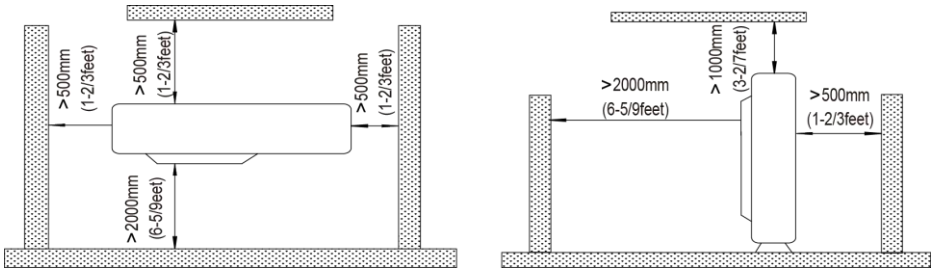

Fig. 3.2
- (1). Install the outdoor unit in a place where it will be free from being dirty or getting wet by rain as much as possible.
- (2). Install the outdoor unit where it is convenient to connect with the indoor unit.
- (3). Install the outdoor unit where the condensate water can be drained out freely during heating operation.
- (4). Do not place animals and plants in the path of the warm air.
- (5). Take the air conditioner weight into account and select a place where noise and vibration are small.
- (6). Install the outdoor unit where is capable of withstanding the weight of the unit and generates as less noise and vibration as possible.
- (7). Provide the space shown in Fig. 3.2, so that the air flow is not blocked. Also for efficient operation, leave three of four directions of peripheral constructions open.